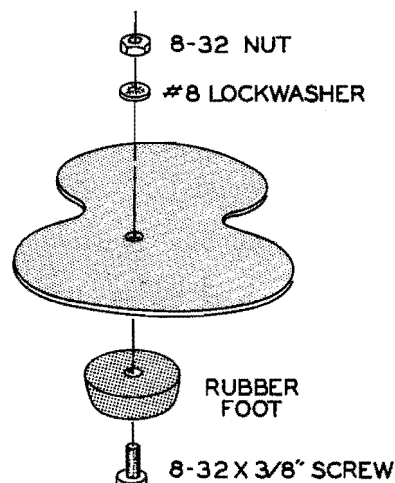

Figure 29
- () Install the four large rubber feet on the cabinet. Use 8-32 x 3/8" hardware. Insert a screw through each rubber foot and then through the cabinet bottom. Use #8 lockwashers under the nuts and tighten securely. See Figure 29.